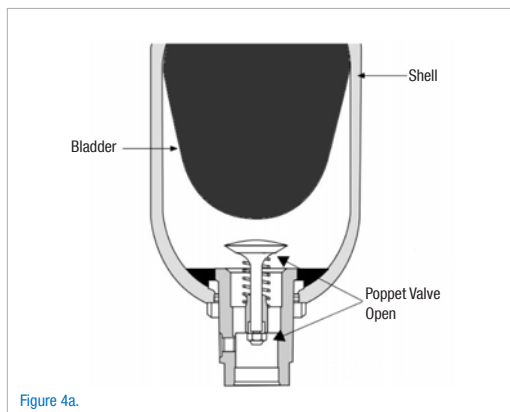

Figure 4a.
- B. Check to make sure that the poppet valve located in the fluid port is fully in the open position. Refer to figure 4a.